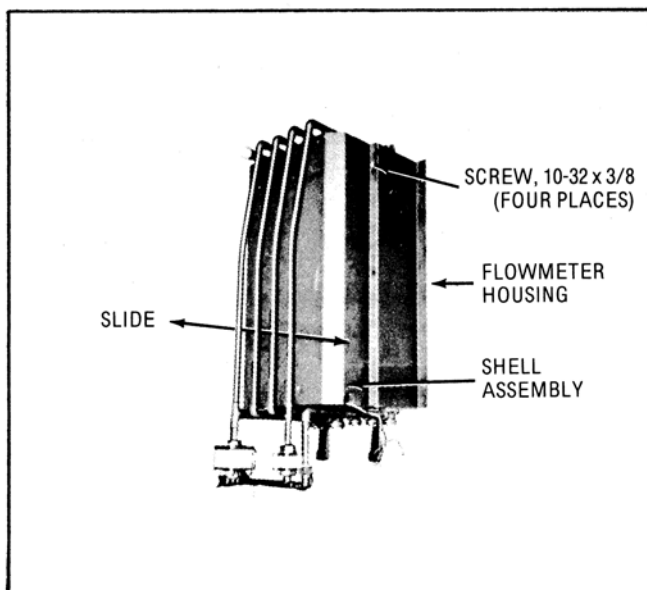

Figure 10. Shell Assembly Removal
a. Non-Explosionproof (See figures 10 and 11)
2. Remove four (4) screws (10-32 x 3/8) holding shell assembly to housing.
b. Explosionproof (See figures 10 and 12)
2. Remove four (4) screws (10-32 x 3/8) holding shell assembly to flowmeter housing.